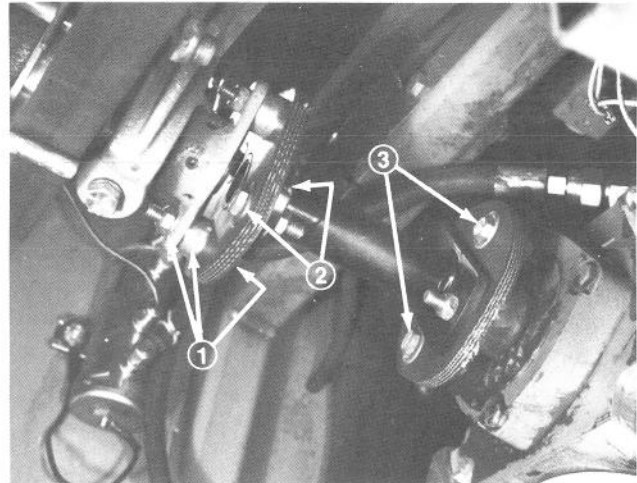

Figure 56
coupling assembly to engine pulley and two capscrews, flatwashers and locknuts securing coupler to transmission hub (Fig. 56). Slide assembly out after capscrews are removed.
3. If drive coupling assembly must be disassembled, separate rubber couplings from power shaft by removing four nuts, flatwashers, capscrews and spacers (Fig. 56).
- 1. Assemble rubber couplings and power shaft with capscrews, spacers, flatwashers and nut (Fig. 56).
- 2. Position drive coupling assembly between engine and transmission hub, and align the holes. Secure drive coupling between hubs with capscrews, flatwashers, rubber washers and nuts on engine end; capscrews, flatwashers and nuts on pump end (Fig. 56). Tighten the capscrews alternately and evenly to prevent distortion of the rubber coupling.